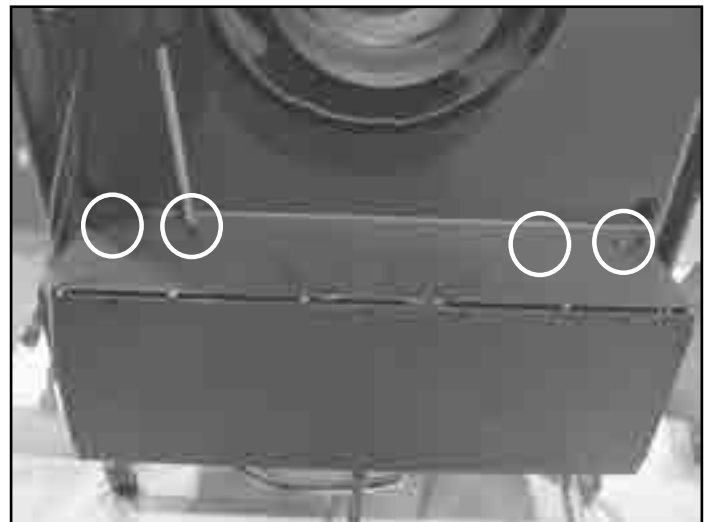

Figure 8.5 Attach Blower with Four Screws
3. Holding the blower in place, attach it to the appliance with four of the screws provided. See Figure 8.5.